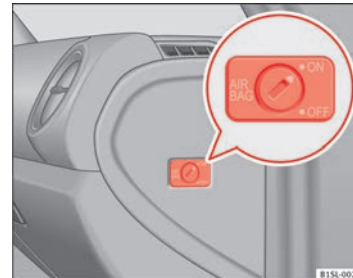

Fig. 49 On front passenger side: key switch for disabling and enabling the front passenger airbag
- Using the vehicle key, turn the key switch to **OFF** ⇒ Fig. 49.
- Using the vehicle key, turn the key switch to **ON** ⇒ Fig. 49.